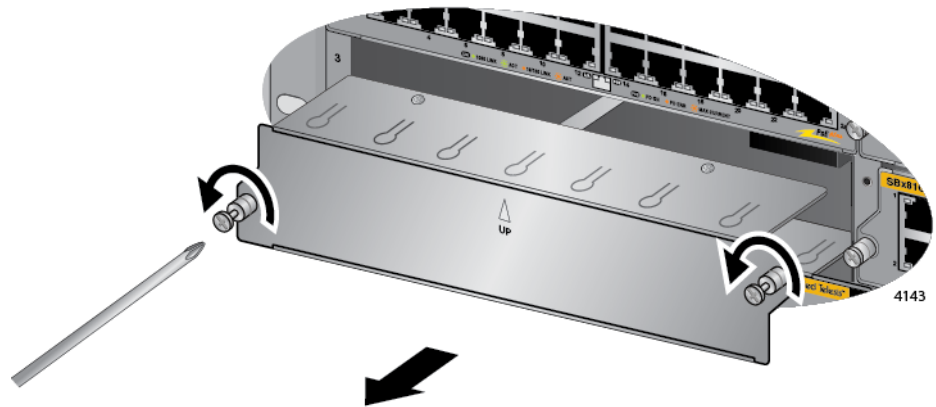

Figure 86. Removing a Blank Slot Cover
- If the selected slot for the line card is covered with a blank slot cover, use a #2 Phillips-head screwdriver to loosen the two captive screws on the cover and remove it from the chassis. Refer to Figure 86.